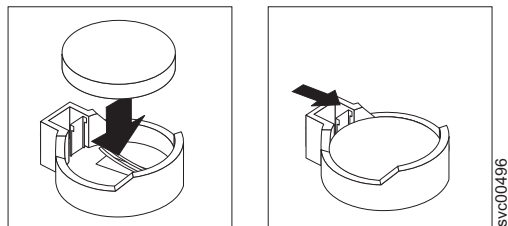

Figure 145. Installing the SAN Volume Controller 2145-8A4 CMOS battery
- c. Press the battery down into the socket, as shown in Figure 145, until it clicks into place. Make sure that the battery clip holds the battery securely.